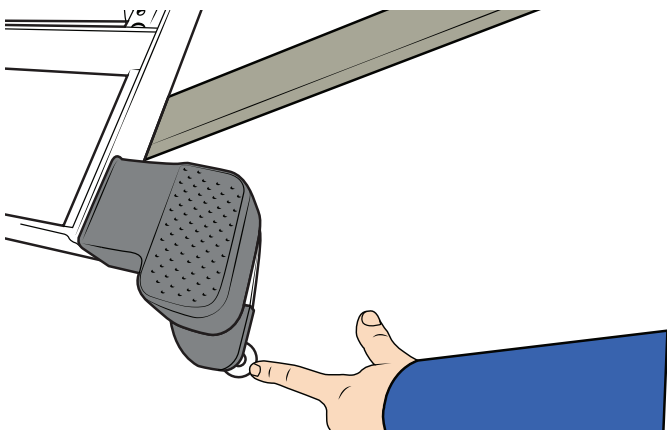

Figure 111
1. Use the wooden lever to temporarily add washers under the feet at the head end to determine how many needs to be added (or removed) on each foot. See Figure 111.